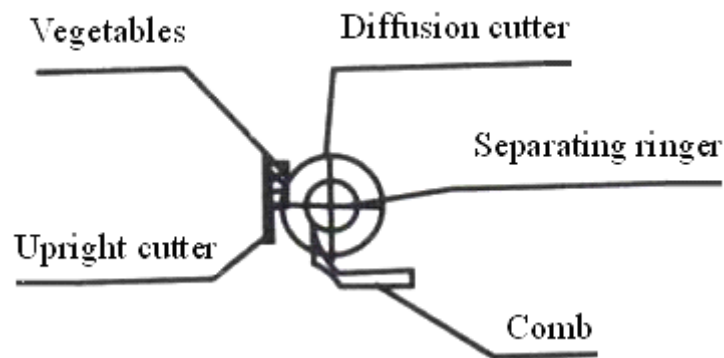

Fig. 7-2
4.2.5.2 Installation errors: The blade of comb contact with separating ringer, damage is done to the ringer surface, furthermore, the comb will be bent or broken.(Fig. 7-2)